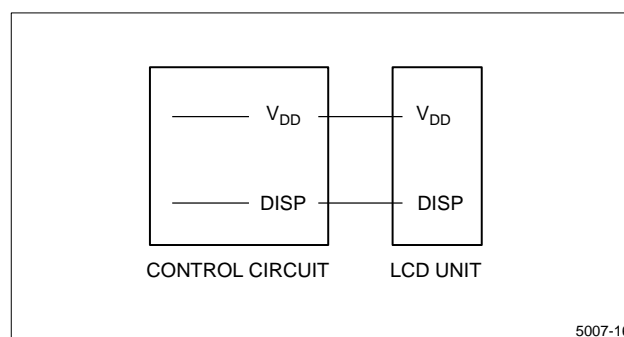

Figure 15. Connection With DISP Control
1. Connection of DISP (pin number 4), refer to Figure 15.